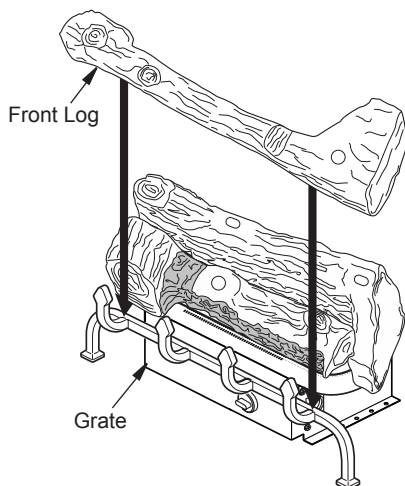

Figure 18 - Installing Front Log
3. Place front log (#3) onto grate as shown in Figure 18.